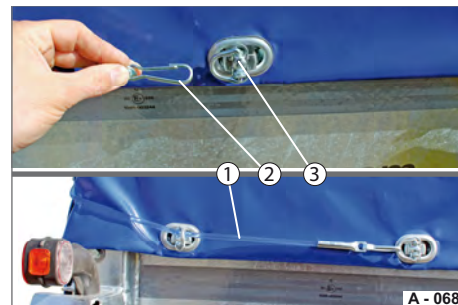

Fig. 72 Securing curtain section
- ▶ Pull the tensioning rope (Fig. 72/1) around the corner post and feed the tensioning rope around the cramp with the karabiner hook (Fig. 72/2).
- ▶ Attach the karabiner hook into the cramp (Fig. 72/3).